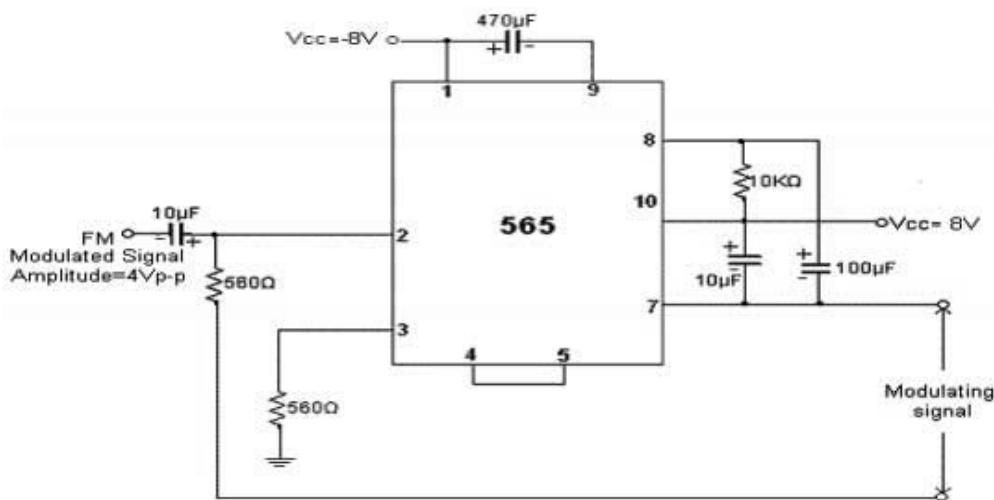
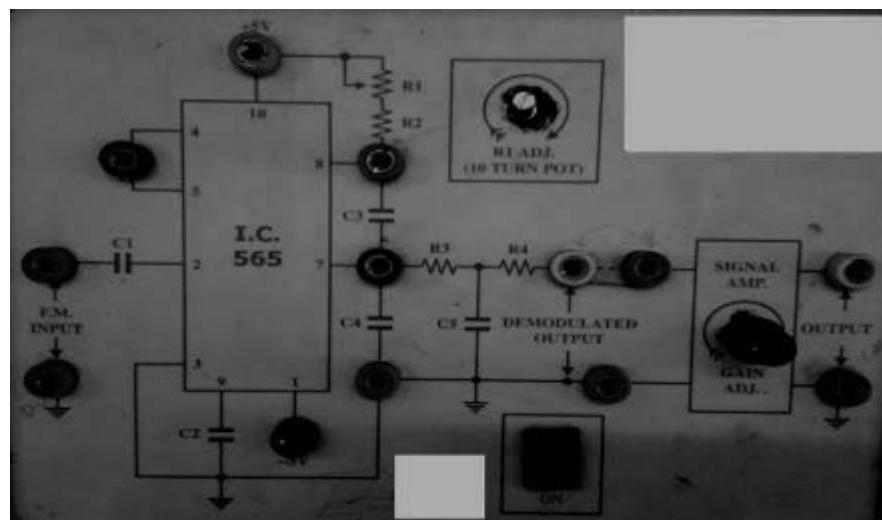
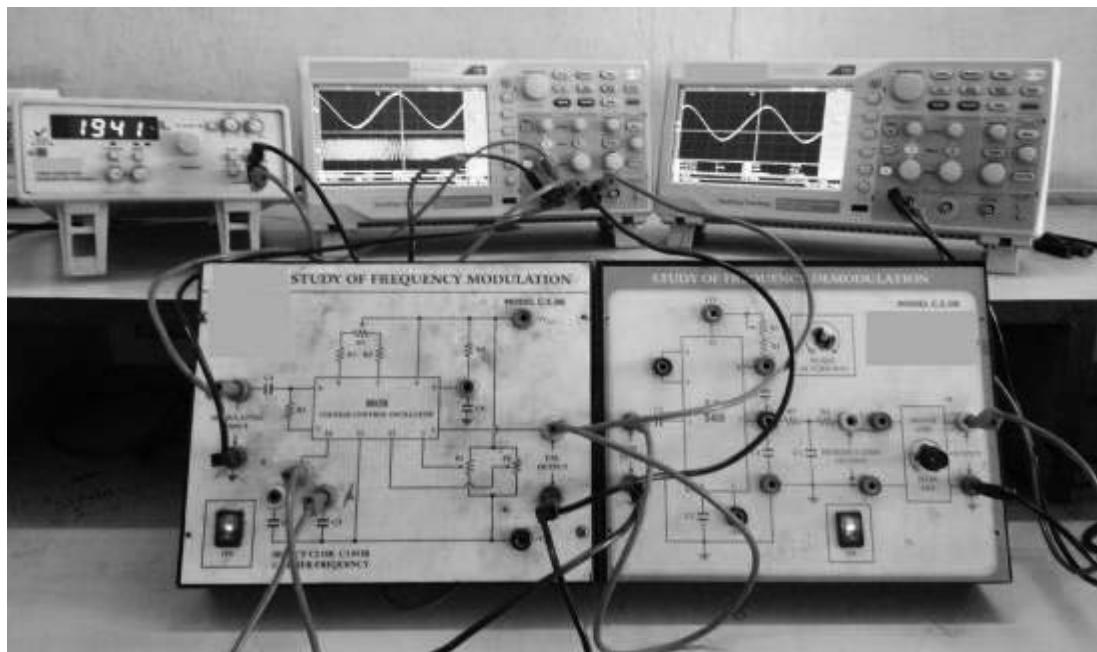

Fig 11.3: FM Demodulation circuit diagram using IC 565
Fig 11.4: FM Demodulation trainer kit using IC 565
Fig 11.5: FM Demodulation experimental set up using IC 565
- a) Sample Circuit diagram(Fig11.3, Fig11.4)/Experimental set up(Fig 11.5)
1. Make the connections as shown in figure 11.5.